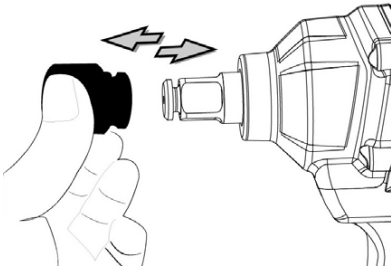

Fig.4
1. To install the socket, push the socket into the driving spindle as far as it will go. (See Fig.4)